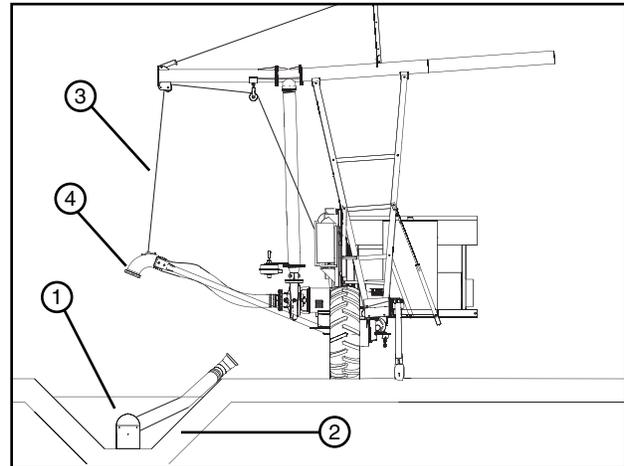

Figure 78-1 1. Suction Inlet 2. Ditch 3. Lift Cable 4. Elbow
1. Raise the suction inlet out of the ditch using the lift cable, high enough to clear obstructions, then disconnect the inlet tube at elbow as shown in Figure 78-1. To prevent damage during swing around move machine away from the ditch so that the wheels will not fall in the ditch.